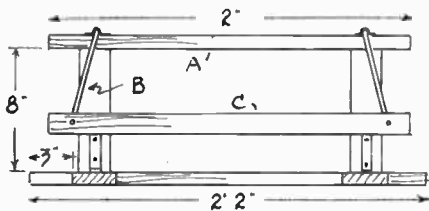
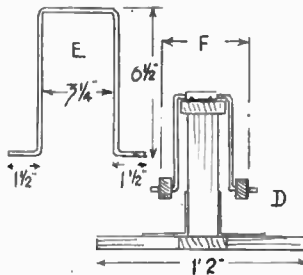
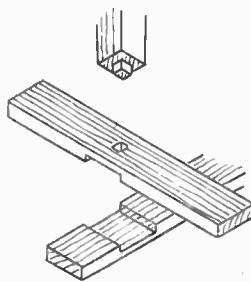
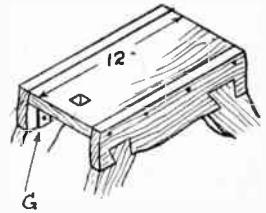

Fig. 1
Fig. 2
Fig. 3
Fig. 4
A side view of the stand is given in Fig. 1 and an end view in Fig. 2. For the wood, a good quality of deal will serve nicely. The sizes of timbers are given in a cutting list and need therefore no mention in the text. Cut the ground members to length, these consist of one long timber with two side ones, jointed across. These joints are of the simple halved variety, common to all woodworkers, and clearly shown in Fig. 3. Glue and nail these across, as in the diagram.
At each end an upright post is to be fitted which supports part (A) on which the rockers swing. These posts, shown at (B) in the side view, are cut to the length, plus $\frac{1}{4}$ in. at top and bottom for tenons, of the stub variety. Cut these $\frac{1}{4}$ in. square. Mortises for them are cut in the ground members, as in detail, Fig. 3.
Figs. 1 and 2. For the rockers, seen at (E) in Fig. 2 and in position at (D), get some $\frac{1}{2}$ in. wrought iron rod and bend to the shape and dimensions given in the drawing. Readers who may not feel confident enough to do this job themselves could have it done for them by any smith or ironworker locally. The sizes must be strictly adhered to though, and the work competently done. These are laid across part (A), just over the centre of the posts, and held in position by metal straps, 2 ins. wide, with the centres raised to U-shape enough to hold the rockers in place yet allow of free motion.
A pair of rocking bars (C) are then cut. At a distance from each end of $1\frac{1}{2}$ ins. bore a $\frac{1}{4}$ in. hole through these bars and slip them on the 'stick-out' ends of the rockers. This arrangement is clearly seen in the end view of the stand, Fig. 2. Though there is not much fear of the bars riding off the rockers, it would make for
definite safety if a hole were drilled through the projecting ends of them and a split pin inserted to keep the bars from slipping off. A footboard is then screwed across the bars, a little in advance of the centre for the kiddies' feet to rest upon. This is not shown in Fig. 1, but can be seen in the general view of the rocking horse. This board could be screwed underneath bars (C) instead of on top, if more convenient and suiting the length of leg of the child, but that is a matter for the reader to exercise his own judgment on.
A piece of the board is needed for the seat. Cut this to 12ins. long, and with width (F) (Fig. 2). Lay the horse's head on the board and mark on the latter the correct spot for a mortise to fit the tenon. Glue and nail the legs and sides to the seat, as in detail, Fig. 4, and in the angles underneath, as shown at (G), screw 2in. steel furniture brackets each side, four being required. Now round off the side edges of the seat for comfort, and glue the head in position. Additional strength for the head can be gained by driving a screw in from beneath the seat into it. Fit the horse on with stout screws driven through the hoofs into rocking bars (C).